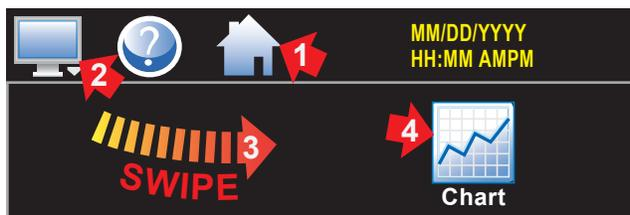

Figure 29. Chart Icon Screen
1. Touch: (1)Home (2)Monitor (3)Swipe left-to-right, touch (4)Chart (Figure 29).